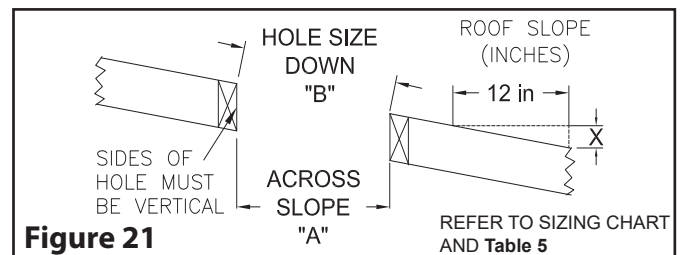

Figure 21
NOTE: The Insulated Reduced Clearance Support (IRCS) comes with a collar. It can be discarded for a Cathedral Ceiling application, it is not required (see Figure 21).
Step 1: Locate the chimney in a convenient location as near as possible to the appliance outlet. Cut and frame an opening in the roof for the support (see **Table 5**). The sides of this hole must be vertical (**See Figure 21**).
The maximum length of unsupported offset chimney is 6'. If the offset chimney is longer than 6', then it must be supported at 6' intervals using the Universal Roof Support (URS) Refer to **Figure 21** for visual.